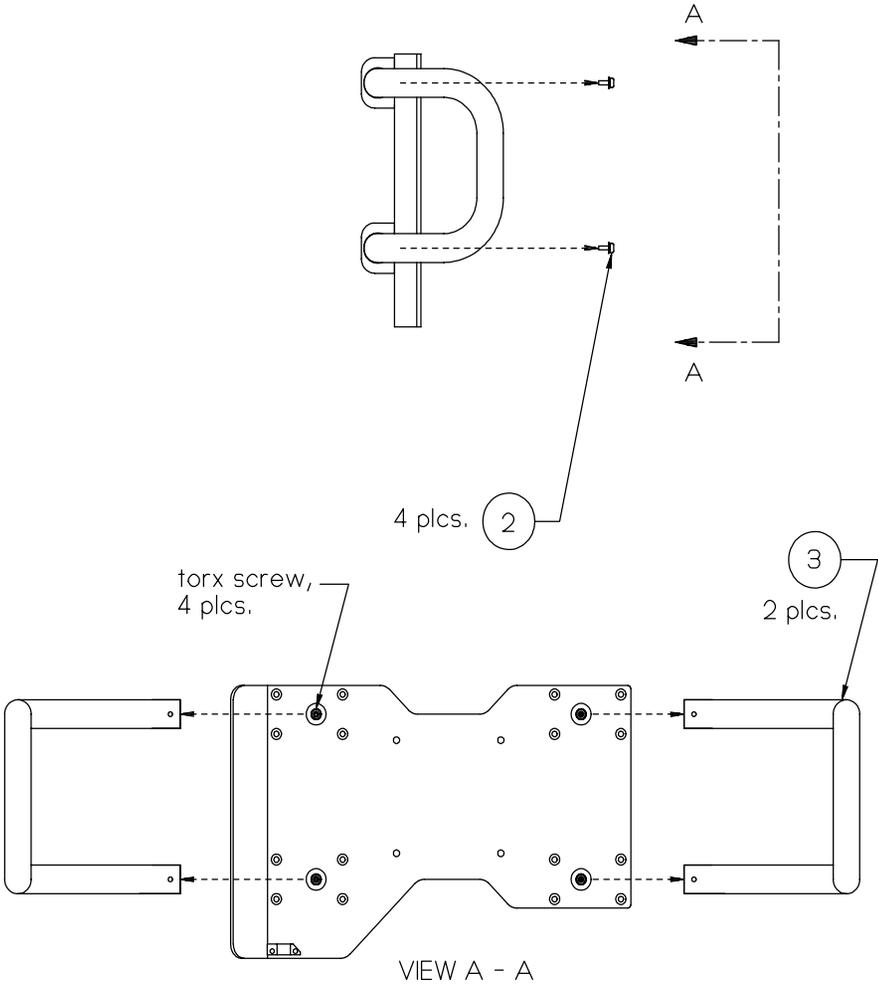

Figure 3
2. From the front surface of the Monitor Mounting Plate, remove the screw that secures each handle end to a Handle Mount, 4 screws total. See Figure 3.
3. Pull outward on the handles and remove the handles from the Handle Mounts. See Figure 3.